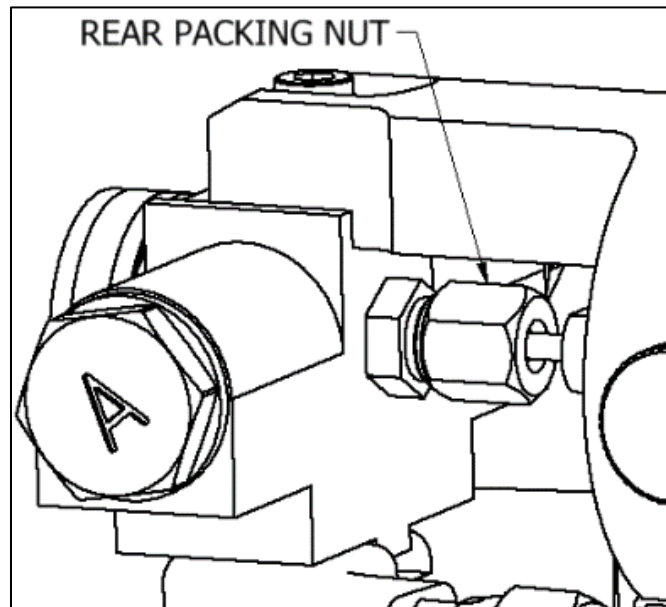

Figure 13: Rear Packing Nut
1. **Rear Packing Nut** (see Figure 13) should be initially installed finger-tight, then turned with a ½" wrench one half turn.